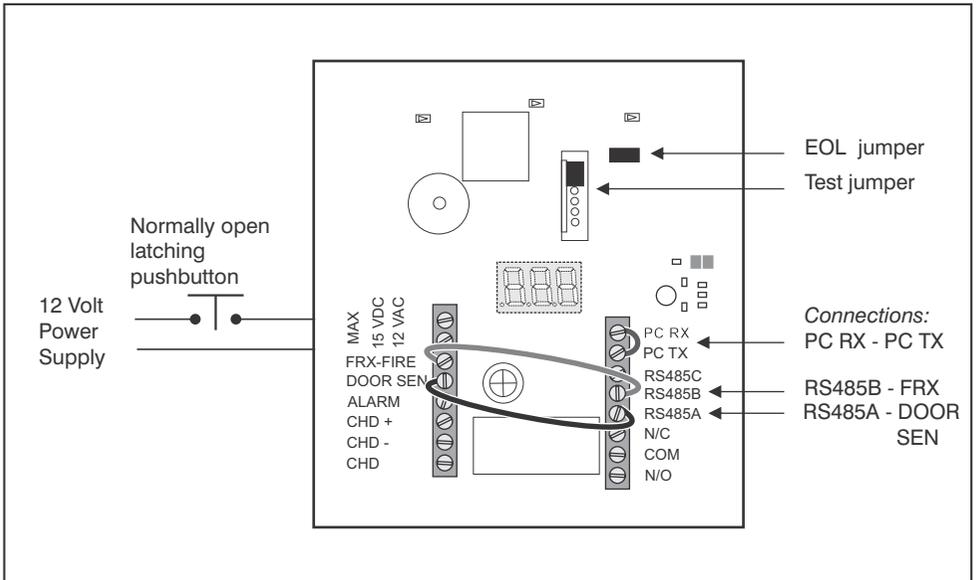

Figure 11 Lattice L1000 Controller Connection Diagram
1. Connect the unit under test as per figure 11.
4. Remove and replace the test jumper, refer to figure 11.
8. Remove the end of line jumper, refer to figure 11.